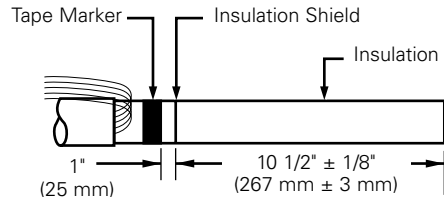

Figure 16. Line illustration of cable stripback.
- Remove insulation shield 10 1/2" (267 mm) from end of cable. (Refer to Figure 16.)
- Measure 1" (25 mm) from end of insulation shield. (Refer to Figure 16.)